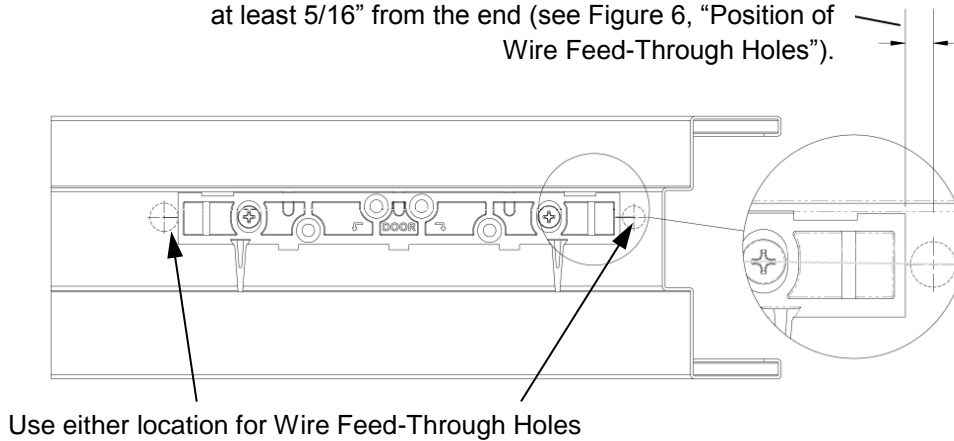

Figure 6. Position of Wire Feed-Through Holes
5. MARK the frame for wire feed-through hole at the end closest to where the wire run will be accessed, and ENSURE the hole marking is centered at least 5/16" from the end (see Figure 6, "Position of Wire Feed-Through Holes").
1/2" or 5/8" diameter hole, as applicable, is centered at least 5/16" from the end (see Figure 6, "Position of Wire Feed-Through Holes").